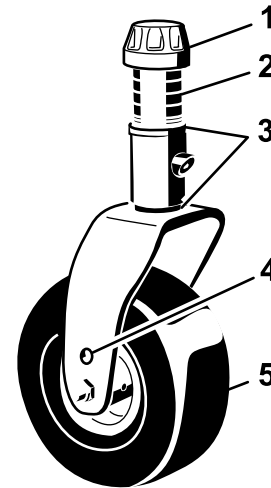

Figure 18
3. Remove the tensioning cap from the spindle shaft (Figure 18) and slide the spindle out of the castor arm. Put the 2 shims (3 mm [1/8 inch]) onto the spindle shaft as they were originally installed. These shims are required to achieve a level across the entire width of the cutting units. Slide the appropriate number of 13 mm (1/2 inch) spacers (refer to the chart below) onto the